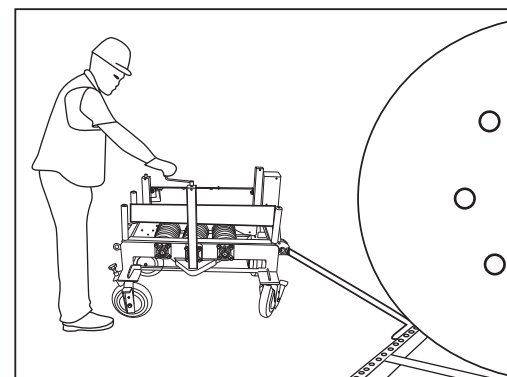

Fig. 1
3. Use a bar of strut or wood block below the reel jack to brace the T-Handle (Fig 1). To extend Feeder distance, unscrew the T-Handle and insert a 1 ½" piece of EMT or larger through the handle and brace it against the strut or wood block (Fig 7a-7b).